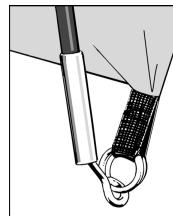

Figure 1.
1. Locate one end of each pole onto the corresponding metal pin. The metal pin inserts into the hollow metal ferrule on the end of each pole. **(See Figure 1)**. Push the pole into a curve from the opposite side, one at a time, and locate all pole ends onto the metal pins.